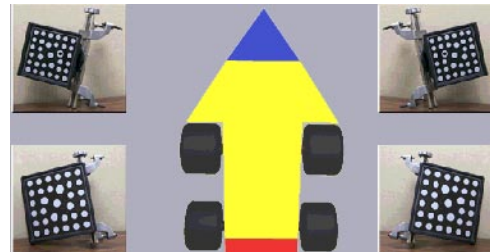

Figure 3-110
6. Single click on the target icon being tested. (Figure 3-110)